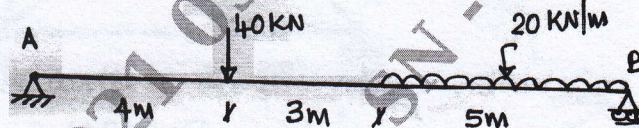

Fig Q5(a)
- 5 a. Calculate the reactions at the supports for the beam shown in Fig Q5(a).